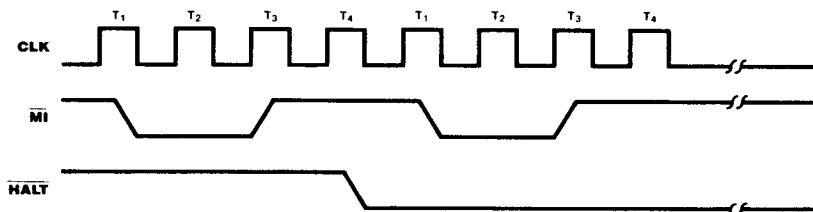

Figure 13. Power-Down Acknowledge
**Power-Down Acknowledge Cycle.** When the clock input to the CPU is stopped at either a High or Low level, the CPU stops its operation and maintains all registers and control signals. However,  $I_{cc2}$  (standby supply current) is guaranteed only when the system clock is stopped at a Low level during  $T_4$  of the machine cycle following the execution of the HALT instruction. The timing diagram for the power-down function, when implemented with the HALT instruction, is shown in Figure 13.
level during  $T_4$  of the machine cycle following the execution of the HALT instruction. The timing diagram for the power-down function, when implemented with the HALT instruction, is shown in Figure 13.